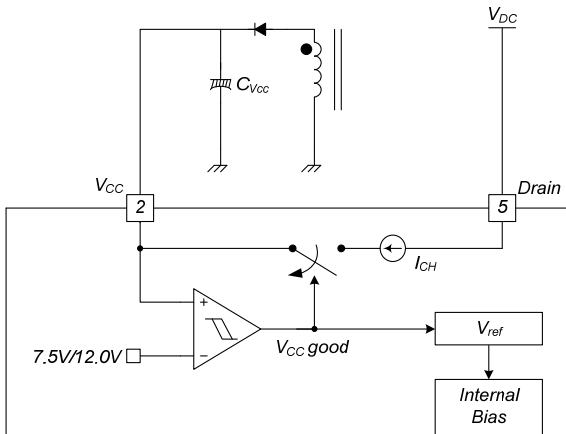

Figure 17. Startup Block
1. Startup: At startup, an internal high-voltage current source supplies the internal bias and charges the external capacitor (C_{VCC}) connected to the V_{CC} pin, as illustrated in Figure 17. When V_{CC} reaches 12V, the FSD156MRBN begins switching and the internal high-voltage current source is disabled. Normal switching operation continues and the power is supplied from the auxiliary transformer winding unless V_{CC} goes below the stop voltage of 7.5V.